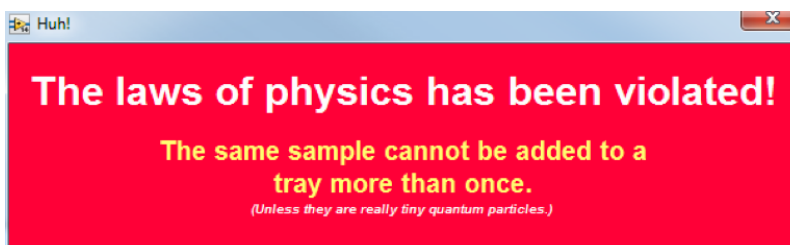

Figure 28- Discrete Sample Entry Error Message: Appears when the user tries to assign one sample name to multiple tray positions.
- Each discrete sample can only be assigned to one position in the tray. If the user tries to assign the same sample ID to two positions in the tray, an error message will appear (Figure 28). Change the Sample ID.